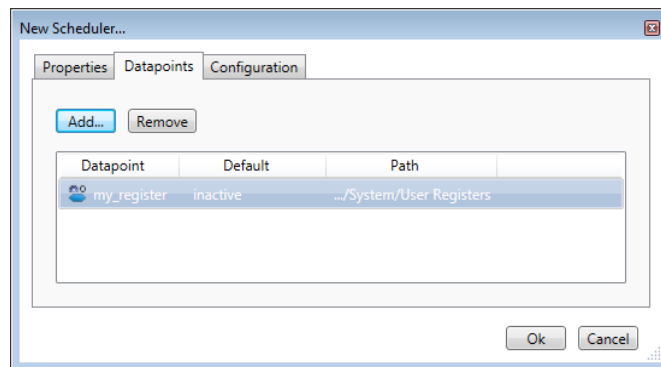

Figure 127: New Scheduler, Datapoints Tab
3. Select the tab **Datapoints** (see Figure 127).